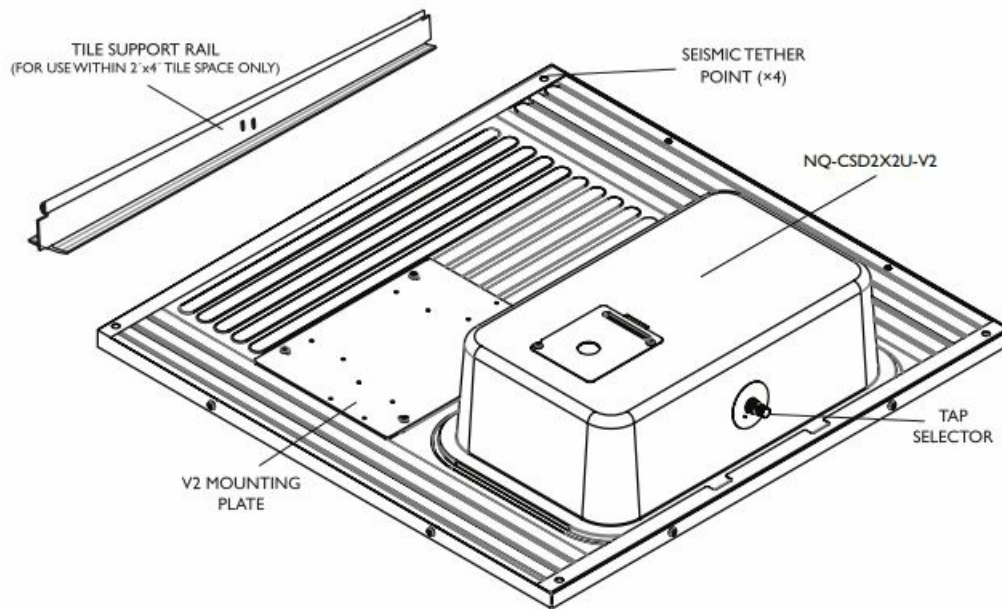

Figure 9: Speaker installation with mounting plate and tile support rail.
2. Place speaker in ceiling with the tile support rail facing the ceiling-tile opening (see Figure 9).